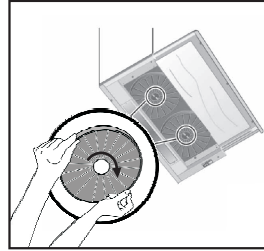

Fig. 6: AF 100 CARBON FILTER
3. Place the carbon filter in its housing. Fig. 6
4. Rotating the carbon filter clockwise, ensure that it is completely fit. Fig. 6